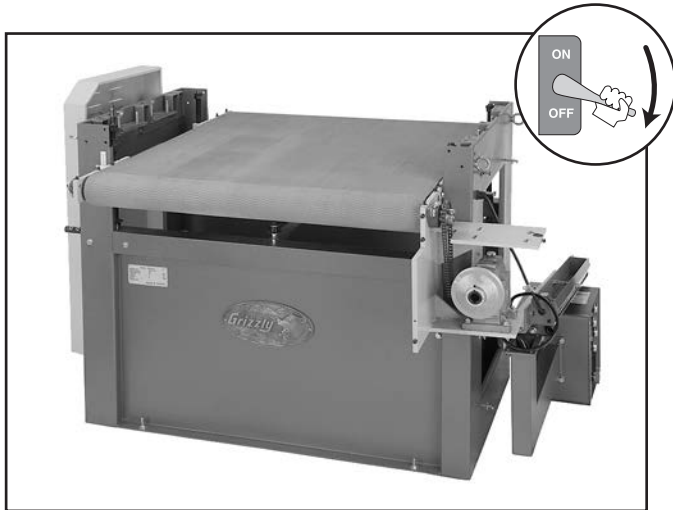

Figure 74. Drum sander disassembled to **Step 16**.
17. Remove the conveyor feed motor. The sander should now be disassembled as shown in **Figure 74**.